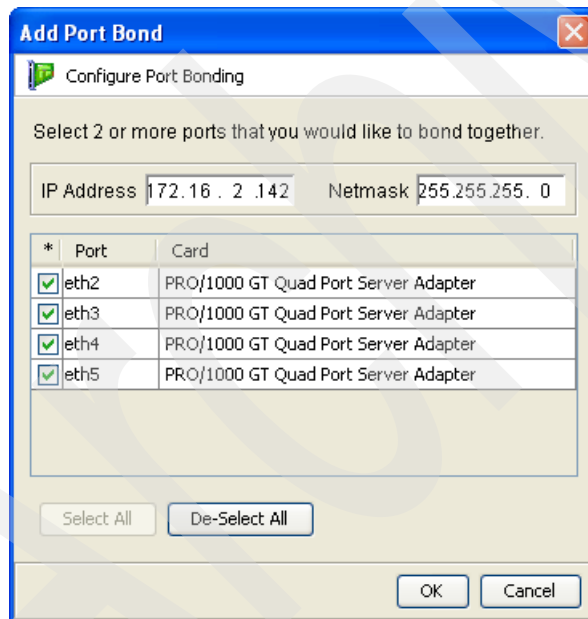

Figure 12-7 Configuring Port Bonding window
2. From the panel shown in Figure 12-7, the Add Port Bond window opens.
You can select at least two ports for each bond. In this lab we choose all of four ports, as in Figure 12-7.